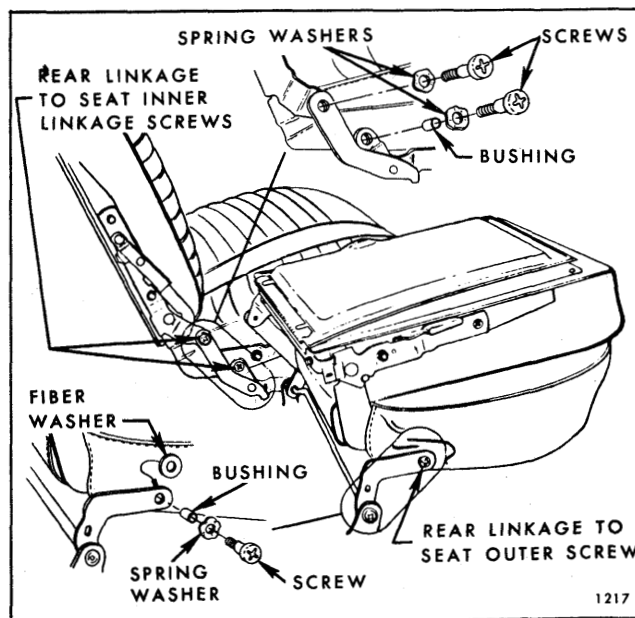

Fig. 10-72—Floor Pan Rear Linkage
2. Remove screws securing rear floor pan linkage to each side of seat cushion frame (Fig. 10-72); then, remove linkage assembly from seat.
3. To install, reverse removal procedure. Inserts in Figure 10-72 show relationship of linkage, bushings and attaching screws.
2. Remove floor pan rear linkage-to-seat inner linkage attaching screws (Fig. 10-72).
2. Remove outer linkage cover. Remove screw securing seat rear floor pan linkage to seat outer attaching screw (Fig. 10-72).